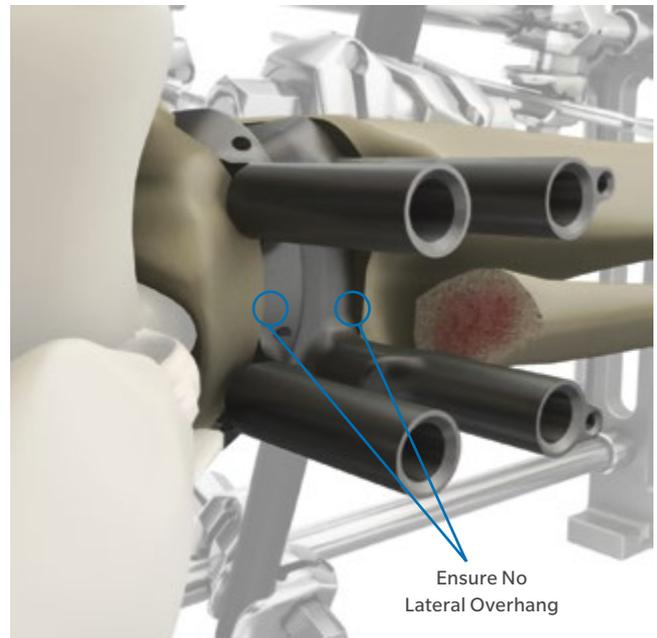

Fig. 67
- Ensure that the guides are placed medial enough such that there is no lateral overhang (Fig. 67).